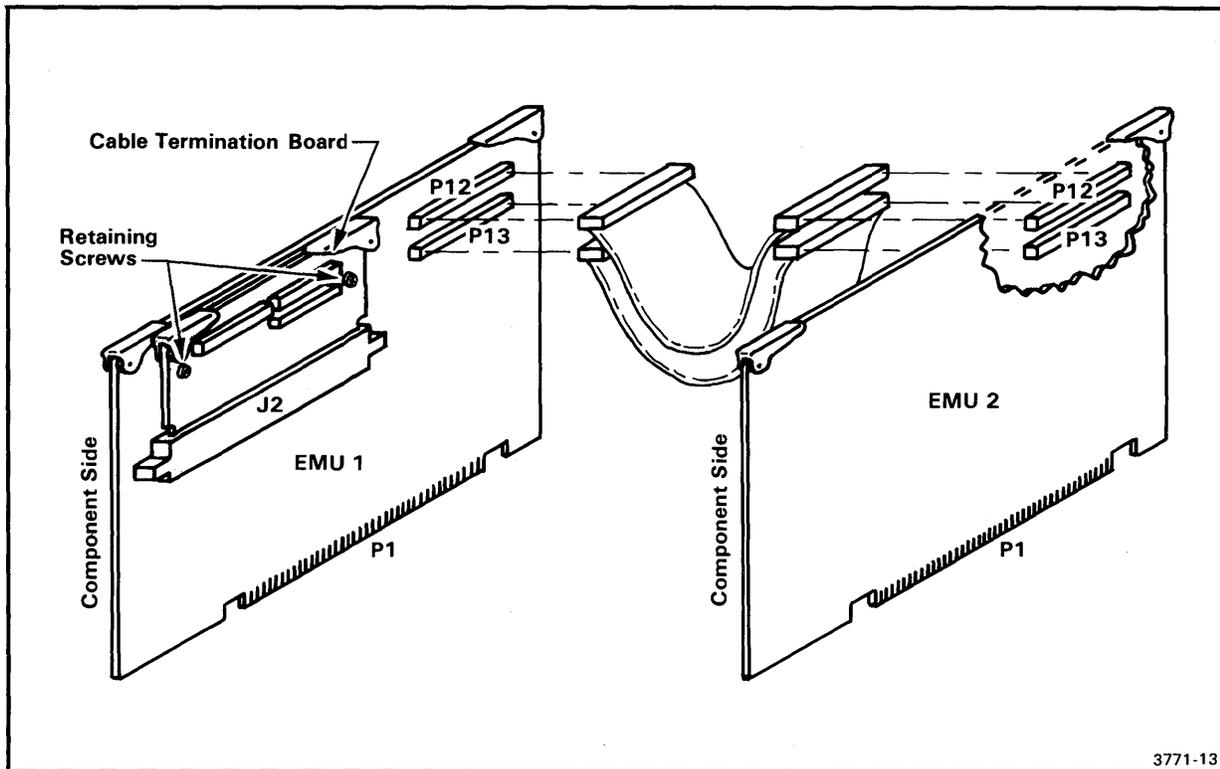

Fig. 3-3. EMU 1/EMU 2 interconnection with Cable Termination board.
8. Connect EMU 1 (with Cable Termination board) to EMU 2, using the two short ribbon cables provided. Dress the cables as illustrated in Fig. 3-3.